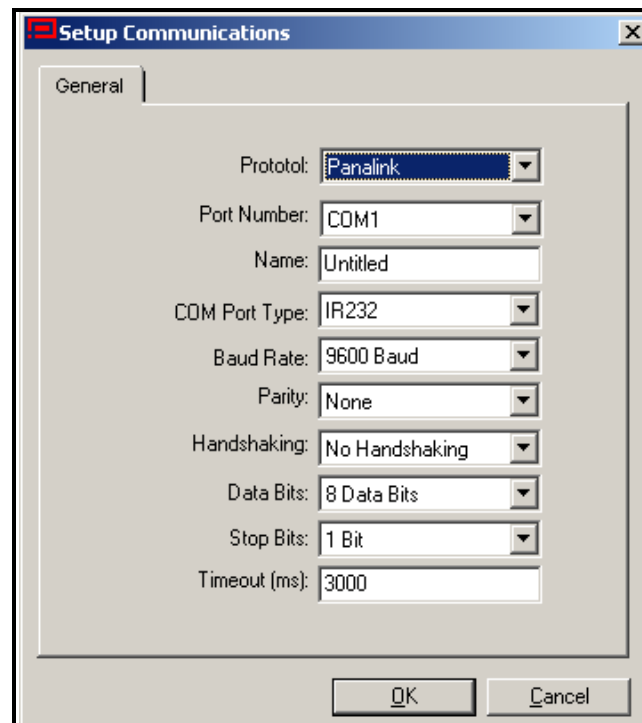

Figure 3: Setup Communications Screen
- Click on the "Communications Port" option to select it. The *Setup Communications* screen appears similar to Figure 3 below.